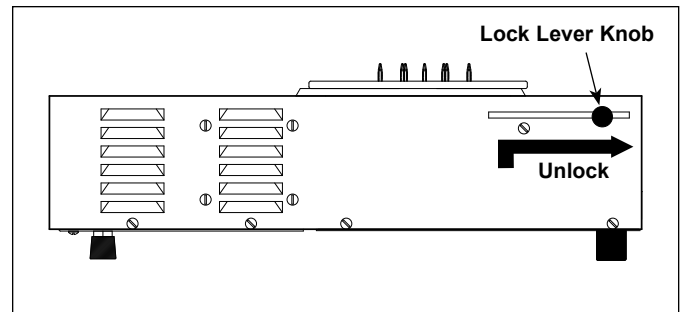

Figure 3. Lock Lever Knob
5. Remove the Needle Plate by pushing the Lock Lever Knob on the right of the unit and lifting the plate (Figure 3).